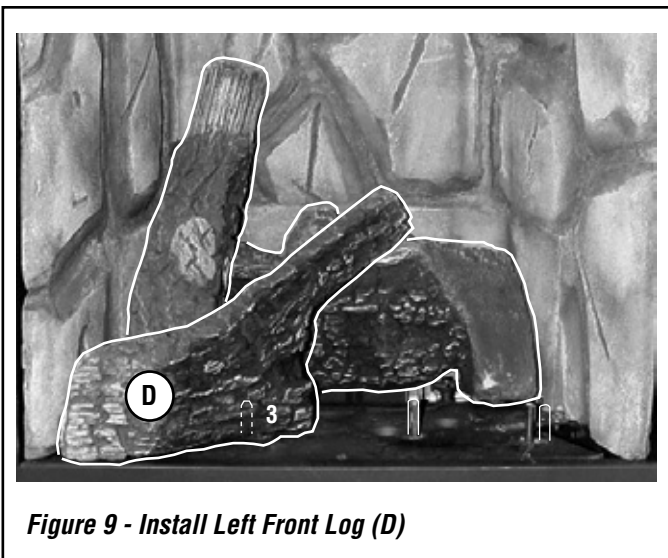

Figure 9 - Install Left Front Log (D)
3. Place the left front log (D) as shown in Figure 9. Position the hole on the bottom of log D over pin # 3.